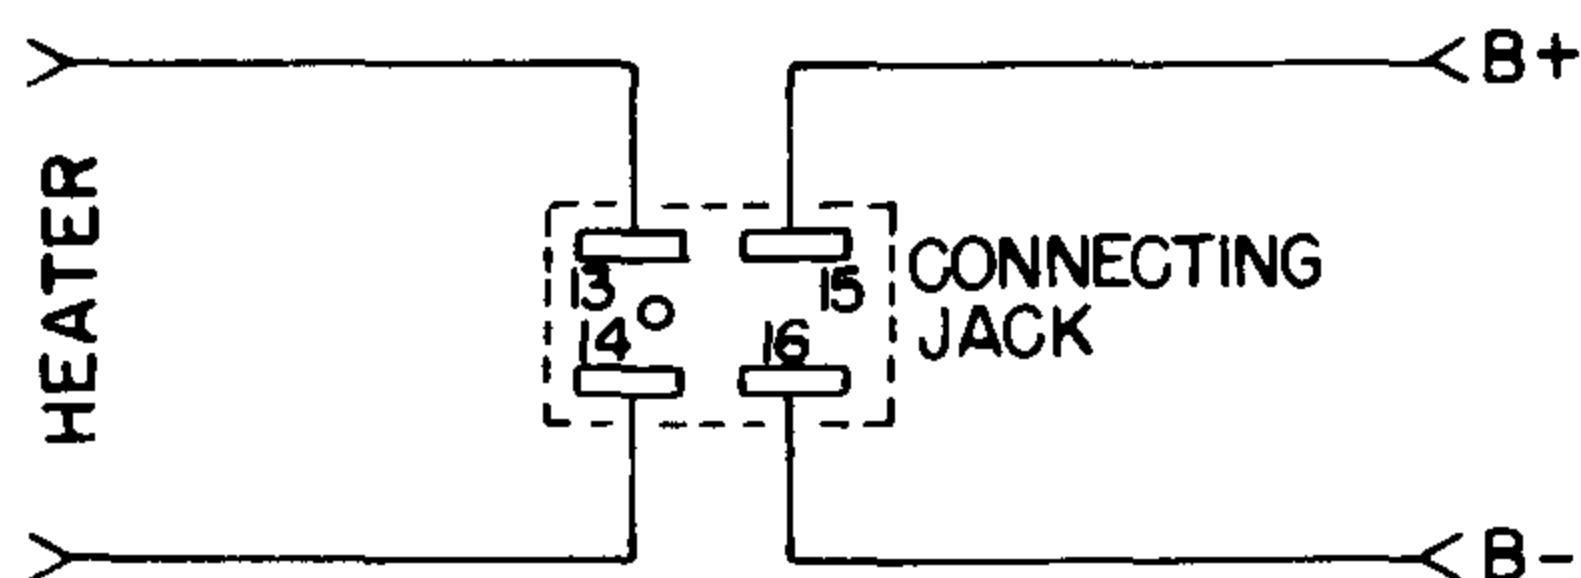

Figure 3.
2.1 POWER SUPPLY. Connect an external power source to the connecting jack as shown in Figure 3. Recommended power sources are the Type 1203-A Unit Power Supply, Type 1201-A Unit Regulated Power Supply, and Type 1204-B Unit Variable Power Supply. The power supply should be able to deliver 2.7 amp at 6.3 volts (60 cps) and 50 ma at 300 volts dc. The heater supply and the d-c plate supply should not be interconnected. When using the Type 1204-B Unit Variable Power Supply, set the output to 300 volts.